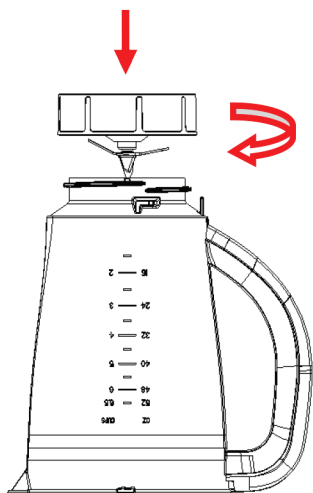

Fig.3
- 1) Invert the jar unit onto a level surface, holding the jar handle, put the the seal ring 2 and blade assembly onto the blade base bottom and secure the blade assembly by turning it clockwise until tight (See Fig.3)